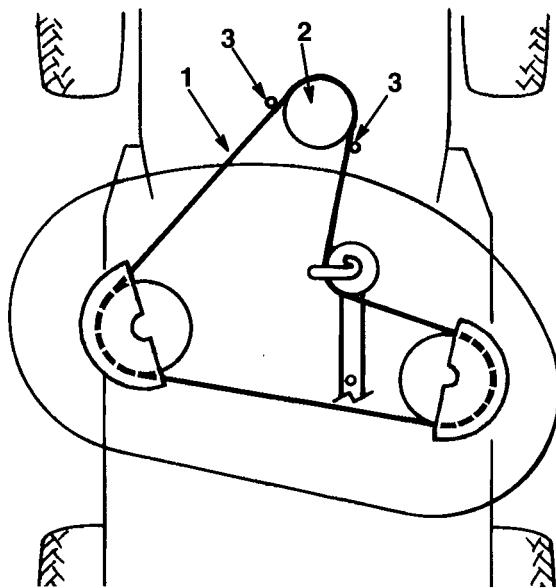

**Figure 41**
9. Remove the hair pin cotter and washer from the end of the long rod (Fig. 41). Slide the rod out of the mower mount.
10. Remove the hair pin cotter and washer at the mower leveling bracket (Fig. 41). Slide the bracket off the mounting pin. Re-install the washer and hairpin cotter for storage.